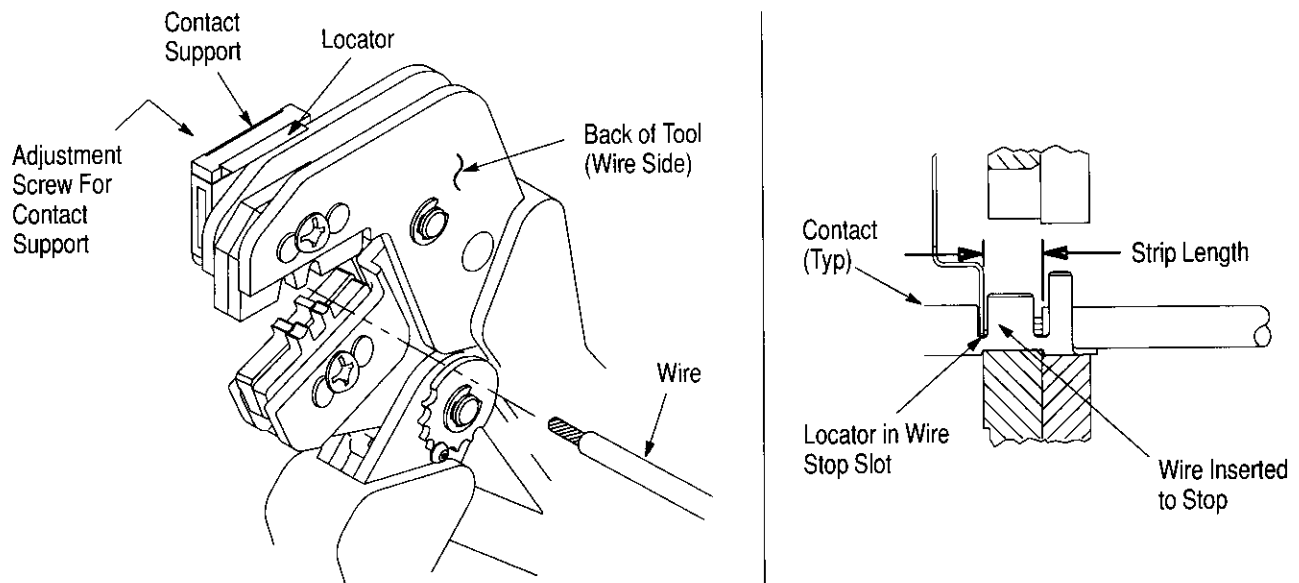

Figure 3
4. CONTACT SUPPORT ADJUSTMENT (Figure 3)
Refer to the table in Figure 1 and select wire of the specified size and insulation diameter. Strip the wire to the length indicated in Figure 1, taking care not to nick or cut wire strands. Select an applicable contact and identify the appropriate crimp section according to the wire size markings on the tool. Refer to Figure 3 and proceed as follows:
3. Position the contact so that the mating end of the contact is on the locator side of the tool, and so that the open “U” of the wire and insulation barrels must face the top of the tool. Place the contact up into the nest so that the movable locator drops into the slot in the contact. Refer to Figure 3. Butt the front end of the wire barrel against the movable locator.
5. Insert stripped wire into contact insulation and wire barrels until it is butted against the wire stop, as shown in Figure 3.
NOTE *The crimped contact may stick in the crimping area, but the contact can be easily removed by pushing downward on the top of the locator (see Figure 3).*